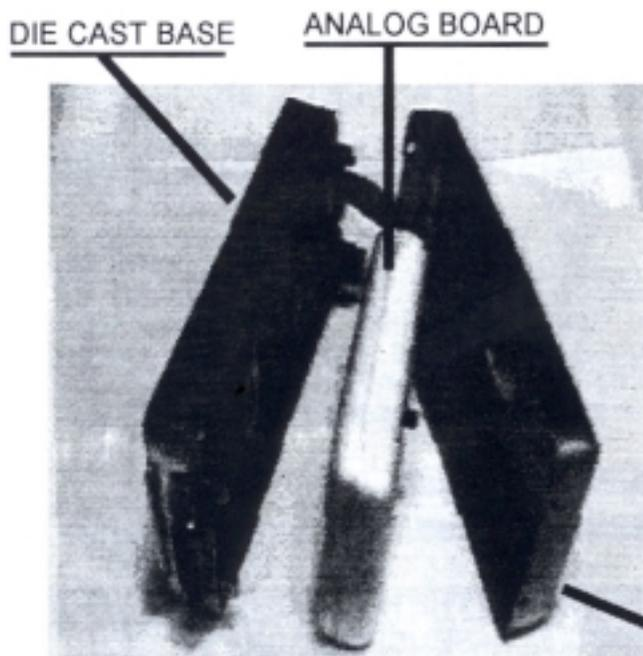

FIGURE 1
1. Remove the A-30 top cover by removing the four retaining screws which affix it to the die cast aluminum base. (see figure 1)